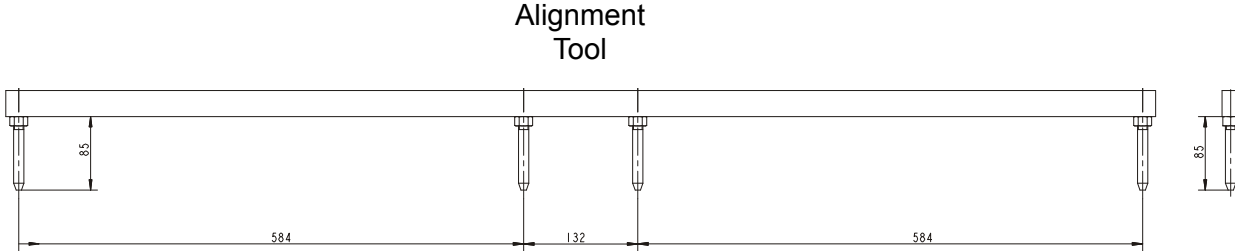

FIG. 6-15
1. The service tool can be ordered in Wood-Mizer (Part. No. 099330) or you can make it yourself according to figure 6-15.
See Figure 6-15.